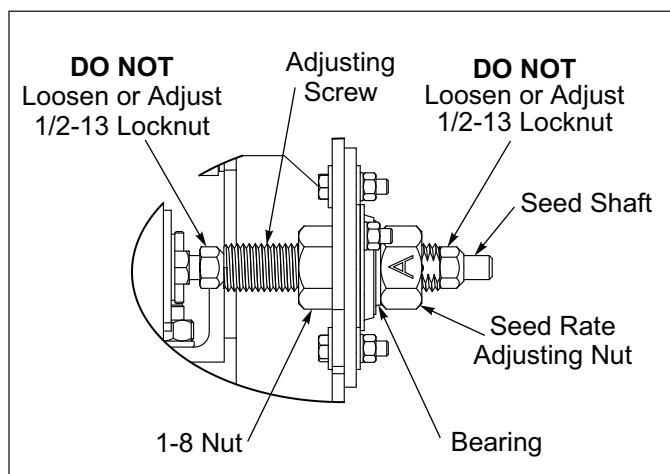

Figure 2-43: Front Box Seed Rate Adjuster
6. Remove Seed Shaft Seed Rate Adjusting Nut. Do Not loosen 1/2-13 Locknuts at the end of the Seed Rate Adjusting Screw. **See Figure 2-43.**